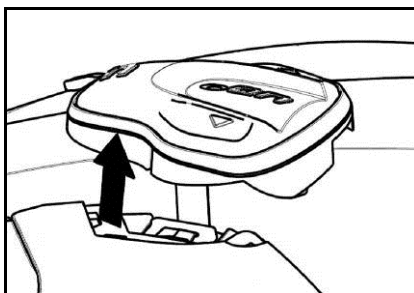

Fig. 21
- Rotate the keypad in a counterclockwise direction (Fig. 21)